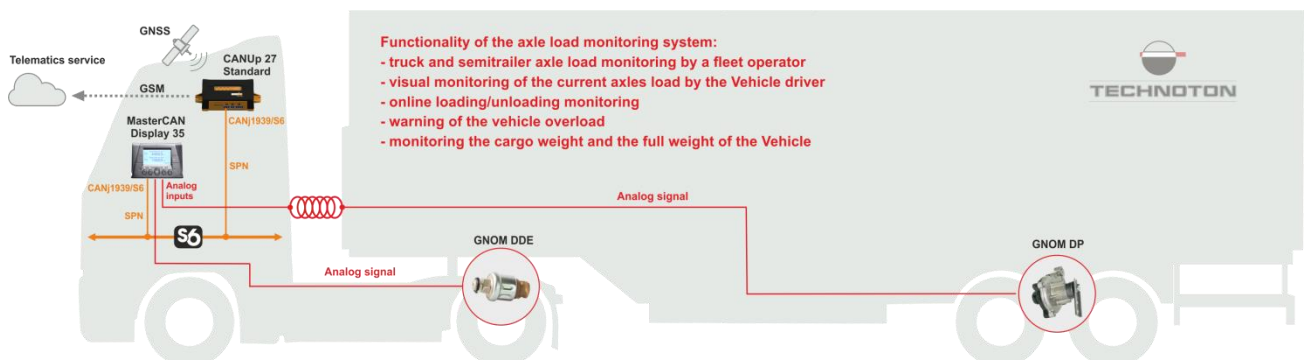

Figure 3 — Example of GNOM sensors application to monitor load on axles of the truck with a non-interchangeable semitrailer
**2) To monitor axles load of a road train with a non-interchangeable semitrailer** (see figure 3).